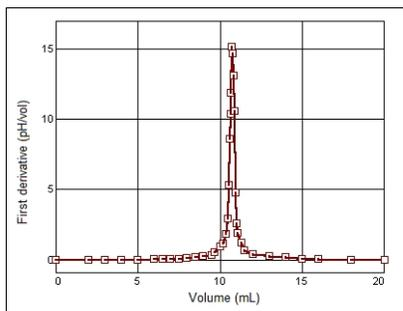

Figure 1 First derivative
7. To help determine the equivalence-point volume, students can create calculated columns and display graphs of first derivative *vs.* volume ($\Delta\text{pH}/\Delta\text{vol}$) or second derivative *vs.* volume ($\Delta^2\text{pH}/\Delta\text{vol}^2$). See Figures 1 and 2 for example first- and second-derivative plots.